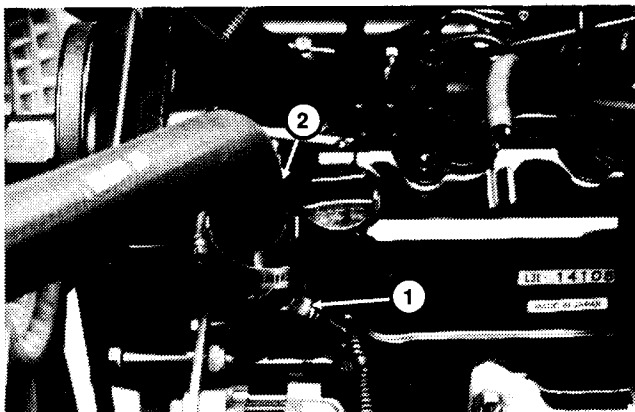

Figure 19
1. Lower the coolant level in the engine and remove the high temperature shut-down switch (Fig. 19).
1. Lower the coolant level in the engine and remove the temperature gauge sender (Fig. 19).